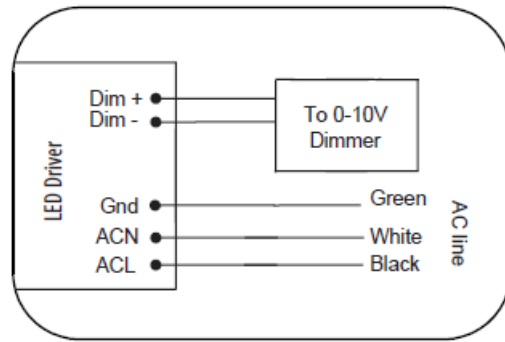

Figure 1
8. Follow the wiring diagram (Figure 1) for proper connections:
8. Follow the wiring diagram, in Figure 1.